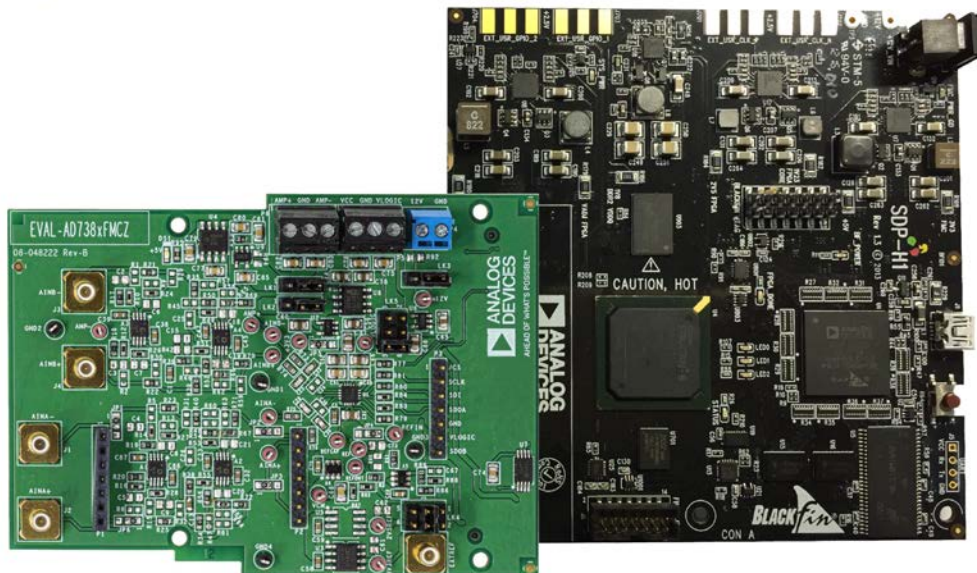

Figure 2. EVAL-AD7386FMCZ Evaluation Board (Left) Connected to the EVAL-SDP-CH1Z Board (Right)
3. Connect the EVAL-SDP-CH1Z board to the EVAL-AD7386FMCZ, as shown in Figure 2.
The EVAL-AD7386FMCZ connects to the EVAL-SDP-CH1Z. The EVAL-SDP-CH1Z is the controller board, which is the communication link between the PC and the EVAL-AD7386FMCZ. Figure 2 shows a diagram of the connections between the EVAL-AD7386FMCZ evaluation board and the EVAL-SDP-CH1Z.